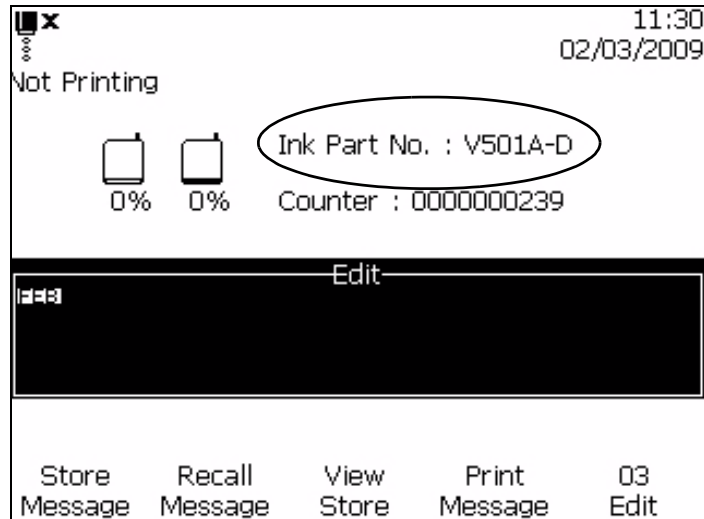

Figure 4-13: Ink Data
- b. Make sure that the part number on the ink cartridge matches with the part number displayed on the screen. Record the part number. See Figure 4-13 on page 4-13.